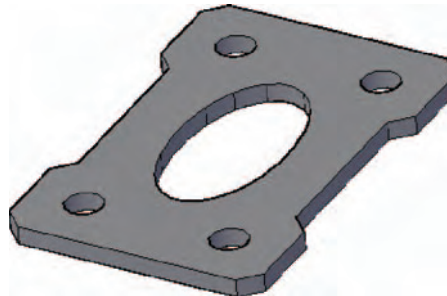

Fig. 17.21 First example – 2D outlines in 3D space
First example – 2D outlines in 3D space (Fig. 17.21)
- Place in the **Home/View/Conceptual** visual style. Extrude the region to a height of 10 (Fig. 17.21).